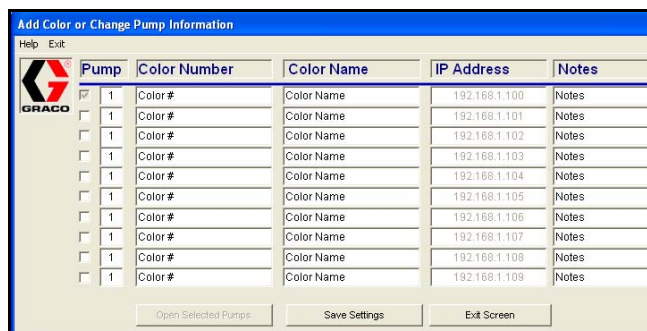

FIG. 15 Multiple VFD Connections
5. Enter the new pump information. See FIG. 15. Check the boxes next to each connected drive.